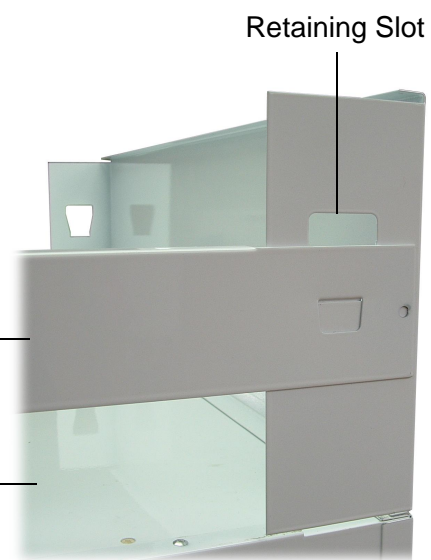

Figure 6: Sign Rear Panel
3. Fit the sign rear panel across the back of the sign side panels by clipping each end tag into the retaining slot in the side panels (see Figure 6 on the previous page).